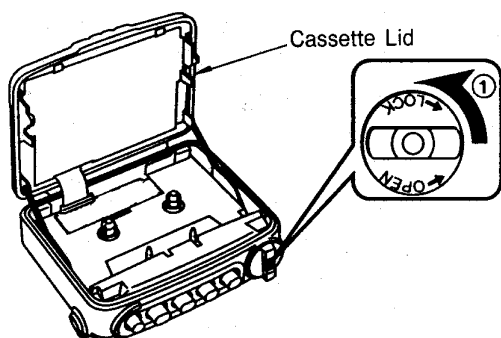

Fig. 1
- Open the cassette Lid in the direction of arrow ①. (See Fig.1)